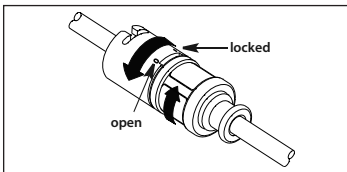

Figure 9
- b. If using a catheter contamination shield with a TwistLock adapter, twist the upper half of the distal hub in clockwise direction to lock catheter in place. Reposition proximal end of catheter shield as desired. Twist upper and lower halves in opposite directions to lock in place. Test the adapter by gently tugging on the catheter to ensure a secure grip on the catheter (refer to Figure 9).